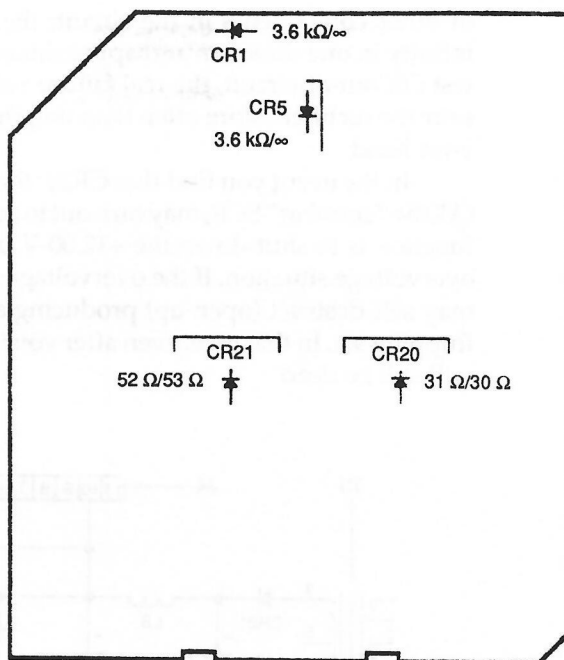

Figure 6-6 The approximate locations of CR1, CR5, CR20, and CR21 as viewed through the solder side of an illuminated U.S. analog board.
4. Refer to Figure 6-6 for the approximate locations of CR1 and CR5 as viewed through the solder side of an illuminated U.S. analog board. Identify the solder joints for CR1.